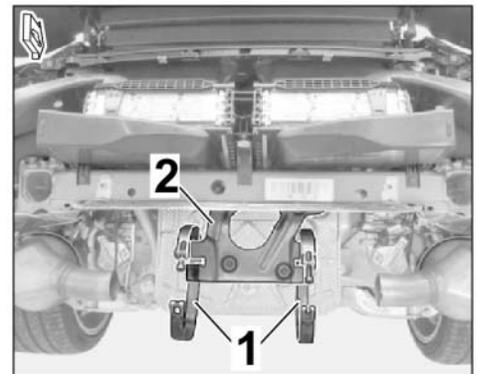

Figure 5
2.4.1 Engage new restraining straps (2 pc(s)) with screw heads facing downwards on the muffler holder (⇒ *Figure 5*).